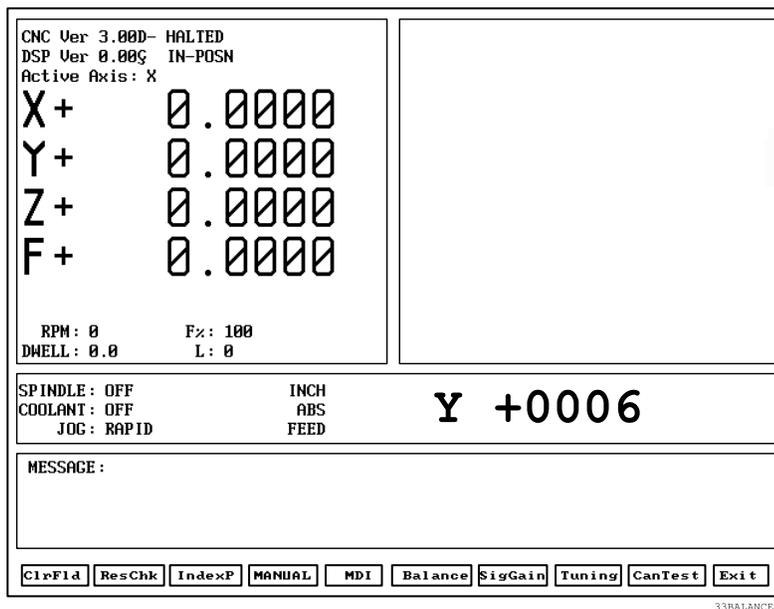

Figure 8, Balance Screen
2. Slowly turn the LOOP GAIN pot clockwise (CW). Motor should be stopped or turning slowly. If motor starts running away, remove power, reverse the tach leads, and retest. Turn the LOOP GAIN fully CW to enable.
4. Refer to **Figure 8, Balance Screen**. Press **Balance (F6)** to output a zero voltage signal to the axis.
Adjust the gains of the ANILAM Servo Amplifier. Refer to **Figure 8**.